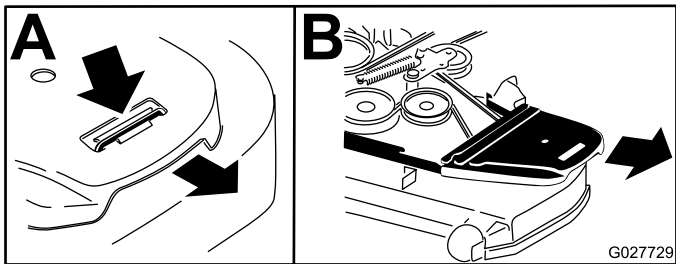

Figure 63
4. Remove the belt covers (Figure 63).